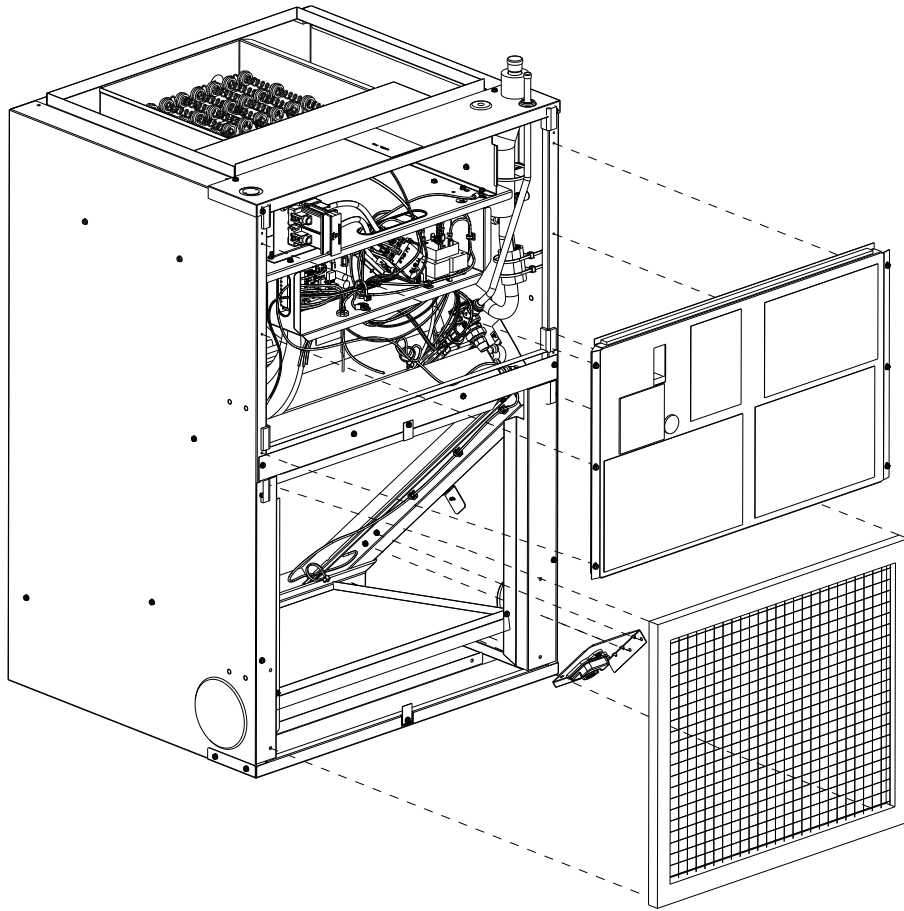

FIGURE 6
Servicing: Before servicing identify the Mode of operation of the system by reading the LED flashing pattern on the PCB which can be seen through the round glass view on top access panel and matching the LED flashing pattern with mode of operation in R-32 PCB fault code label which is attached on the front side of the blower access panel (Figure 6 and 7). After identifying the mode of operation take recommended actions as specified in Table 9.
2. Remove the pin connecting the sensor cable on the PCB as shown in figures 6 and 7. Remove the filter from the air handler based on the following:
4. Place the R-32 sensor wire as shown in figures 6 and 7 and use the cable tie to secure and tie the R-32 sensor wire. Cut the edge of the cable tie.
- Plate the filter as shown in the figure 6.